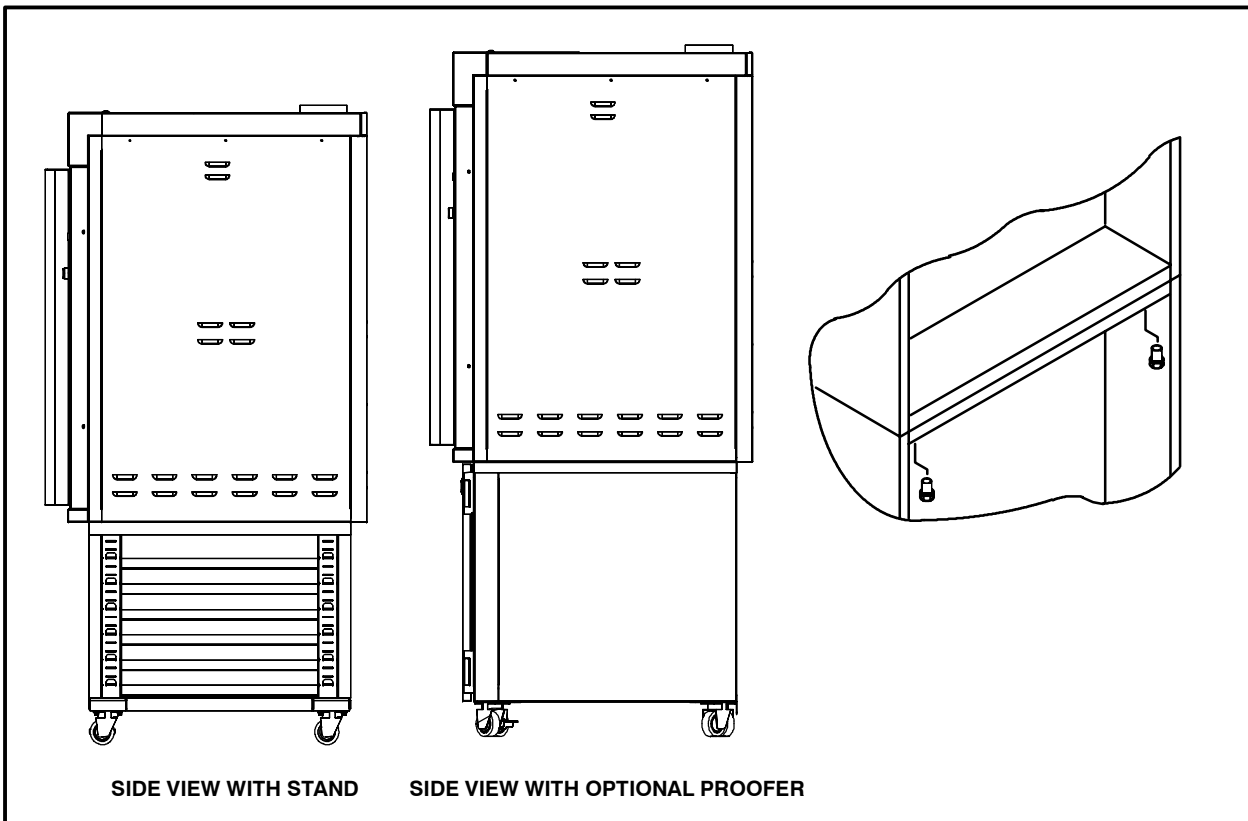

Figure 1
1. Center the oven frame on top of the stand so that the oven overhangs at both the front and back. See Figure 1.
3. Align the two bolt holes on each side of the stand with the two threaded holes on each side of the oven. See Figure 1.
1. Center the oven frame on top of the proofer so that the oven overhangs at both the front and back. See Figure 1.
3. Align the two bolt holes on each side of the proofer with the two threaded holes on each side of the oven. See Figure 1.